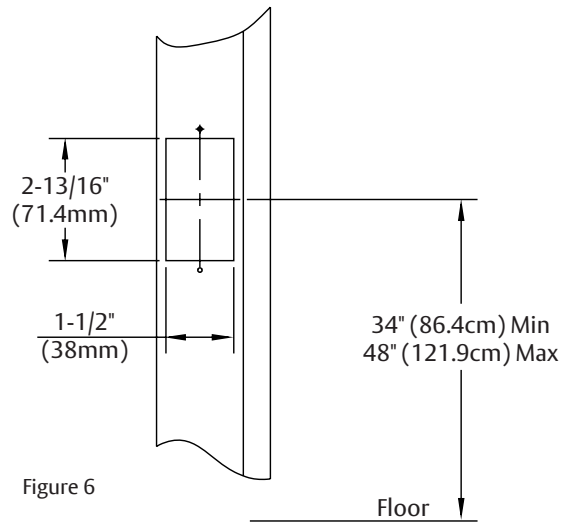

Figure 6
1. Mark cutout for switch on door jamb with horizontal centerline between 34" - 48" (86.4cm - 121.9cm) from floor. (Fig 6)
3. Place switch into cutout to create a template. Mark two (2) mounting holes and remove switch.